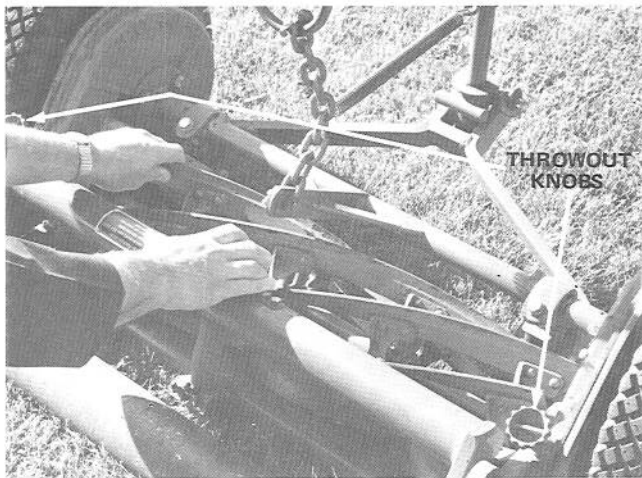

Figure 10
2. Disengage reel throwout knobs by rotating them counterclockwise (Fig. 10). Carefully spin, reel backward to assure free movement.
3. While spinning reel backward, rotate bedknife adjusting knob counterclockwise (Fig. 10) until bedknife does not touch reel blades.
4. While spinning reel backward, rotate adjusting knob clockwise (Fig. 10), one click at a time, until light contact of bedknife and reel is noticed or a whispering cutting sound is heard.
6. At the beginning of the cutting day, when reels are cold, engage the reel throwout knobs (Fig. 10). Operate mowers for 15 to 20 minutes so the bedknife and reel reach normal operating temperature; then stop operation. Next, disengage reel throwout knobs and spin reel backward. A whispering sound — not clicking — should be emitted, and this assures correct adjustment. If a whispering sound is not heard, bedknife and reel must be readjusted: refer to steps 3-5. By contrast, when reels are warm from being used, use only steps 1-5 to maintain light contact between bedknife and reel.